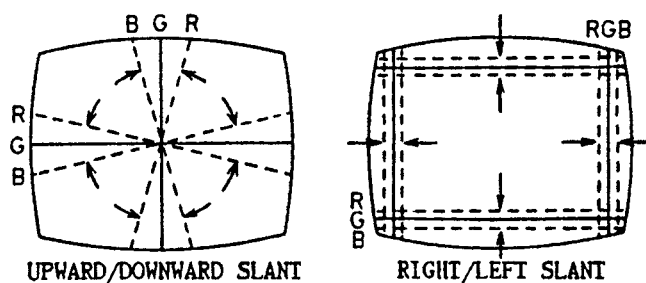

Fig. 3-2-a
1. Adjust the differences around the screen by moving the deflection yoke upward/downward and right/left. (Refer to Fig. 3-2-a)
2. Insert three wedges between the deflection yoke and CRT funnel to fix the deflection yoke. (Refer to Fig. 3-2-b)